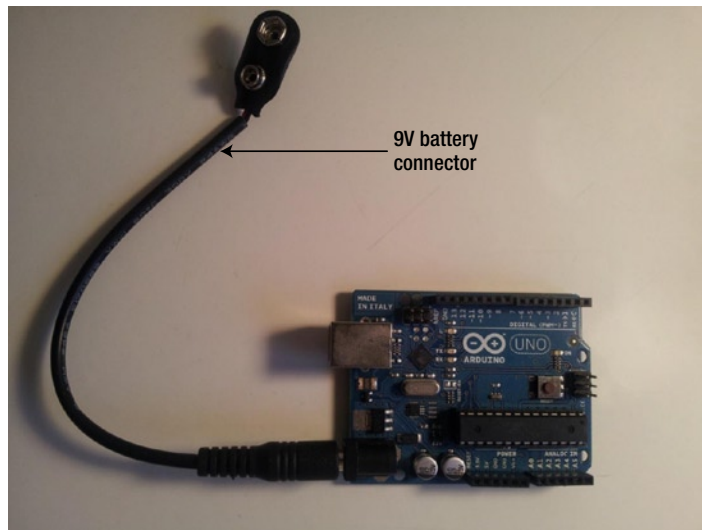

Figure 7-4. Connecting the 9V battery connector to the Arduino
1. Connect the 9V battery connector to the Arduino, as illustrated in Figure 7-4.